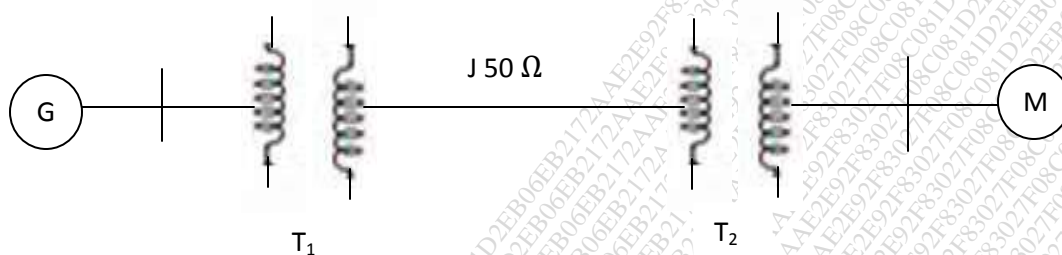

Fig.1
- Choosing a common base of 20MVA. Compute the p.u. reactance of the power system shown in fig.1 below and draw the reactance diagram.